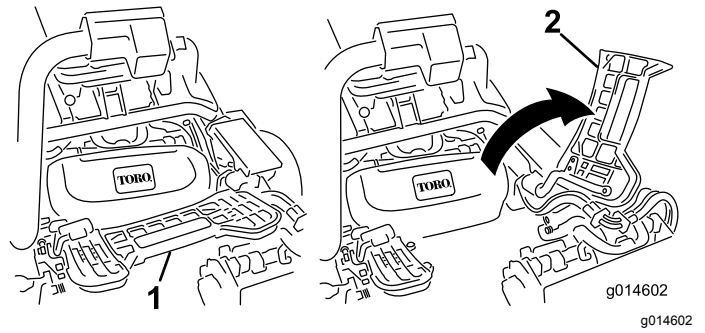

Figure 30
2. Lift up on the foot rest and swing it open, allowing access to the center cutting unit position (Figure 30).